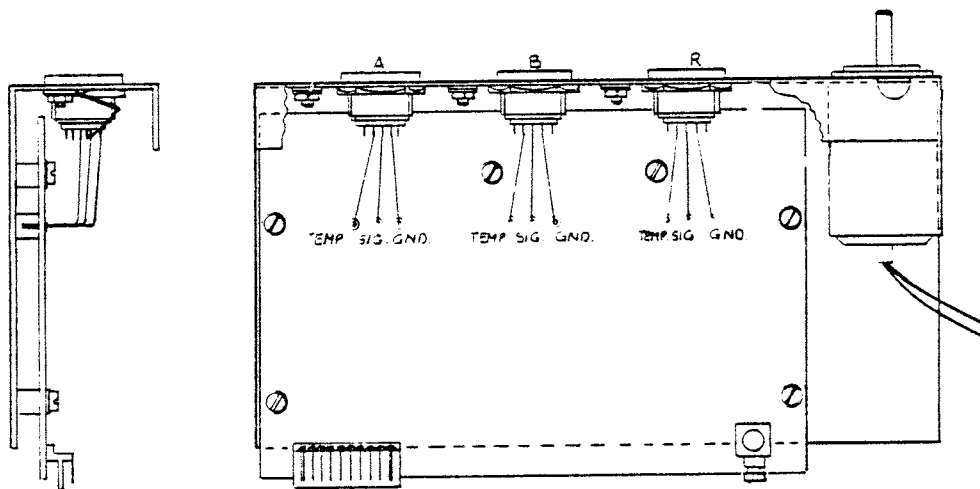

Fig. 10 Probe input sockets and AF03/1 board interconnections.
81. If one channel only is affected it is possible that the fault lies in that channel's Chopper or 1st stage amplifier. If board AF03/1 replacement is thought to be necessary it should be carried out with extreme care. Interconnections between each of the probes input sockets and the board are kept as short as possible to prevent noise pick-up. Fig. 10 indicates the interconnections between the probe input sockets, their pin connections and the board terminations. Also indicated are the wires that require sleeving.
- (1) Fault symptom : 'No probe' on one channel only.
- Check : That all connections to the input probe socket pins are correctly terminated and sleeved as shown in Fig. 10. Ensure that connections to pins B, M and L are not shorting to a chassis pin connection.
- (2) Fault symptom : "Error 42", "Error 46" for one channel and/or "Fail" indication on all three.
- Check : Carry out the checks given for fault (1) or multiplexer IC5 operation.
- (3) Fault symptom : "No probe" on all three channels.
- (4) Fault symptom : "Fail" on all channels and excessive noise on c.r.t. display.
- (5) Fault symptom : AUTO ZERO procedure on channel "A" indicates "No probe" on channel "B". Attempts to AUTO ZERO channel "B" with a probe fitted also produce the "No probe" message.